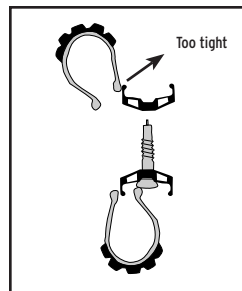

Fig. 2
5. Lay one tire bead into the center of the rim well. Start opposite the valve to give the tire beads the maximum slack. If you start at the valve, the bead will lie on top of the valve. With the bead on top of the valve, some slack will be taken up which is needed to lift the tire bead over the rim shoulder (Fig. 2).